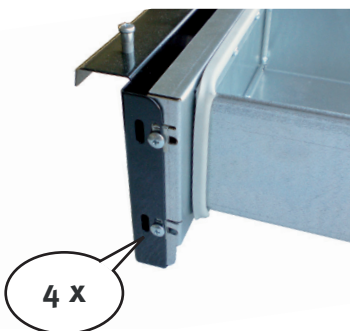

Figure 8
- ⇒ Remove the ash drawer, loosen the panel fixing screws (Figure 8), adjust to the required base recess position and retighten the screws.